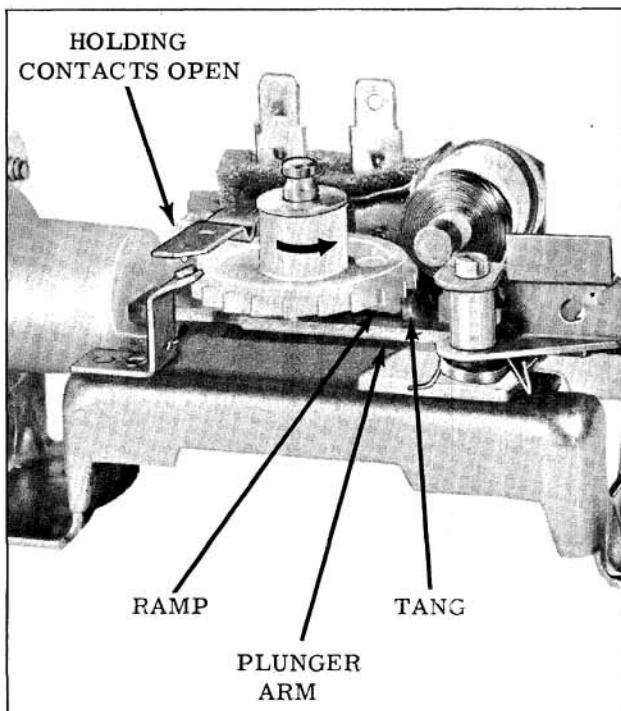

Fig. 13-197 Pump Lockout Position (Pump Parts Idling)
in a retracted position (bellows spring compressed) allowing the plunger arm pin to move back and forth in the plunger arm slot preventing pumping action. (Fig. 13-197)
1. The eccentric ramp on the ratchet wheel is moved away from the plunger arm tang releasing the pump mechanism from its locked-out position. (Fig. 13-197)
As the ratchet wheel rotates, the tang on the bellows plunger arm starts to ride up the eccentric ramp on the lower surface of the ratchet wheel. The full "lockout" position of the pumping mechanism is reached when the tang is up on the widest part of the ramp. (Fig. 13-197) The tang reaches the "lockout" position at the same time the relay coil holding contacts open.
2. If relay and ratchet pawl perform correctly in Step 1, manually actuate the washer pump to rotate the ratchet wheel one tooth. Observe if relay holding contacts close and the pump plunger arm is released from its "lockout" position. Figure 13-197 shows plunger in "lockout" position.
4. If pump performs correctly in Step 3, continue to manually actuate the slide and ratchet pawl assembly until the ratchet wheel has been turned through 360° or 21 teeth. After the ratchet wheel has been rotated 21 teeth, the holding contacts should be opened by a "hump" on the wheel and the pump plunger arm should be in the "lockout" position. (Fig. 13-197)